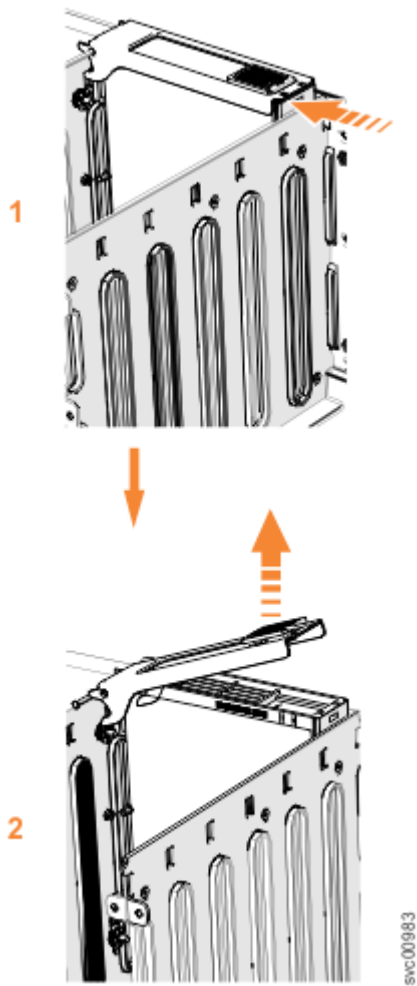

Figure 126. Remove the drive assembly
5. Slide the release latch forward (1), as shown in Figure 126 on page 180.
6. Lift the handle (2) to unlock the drive carrier from the partition, as shown in Figure 126 on page 180. Ensure the toe on the bottom of the latch is fully disengaged.